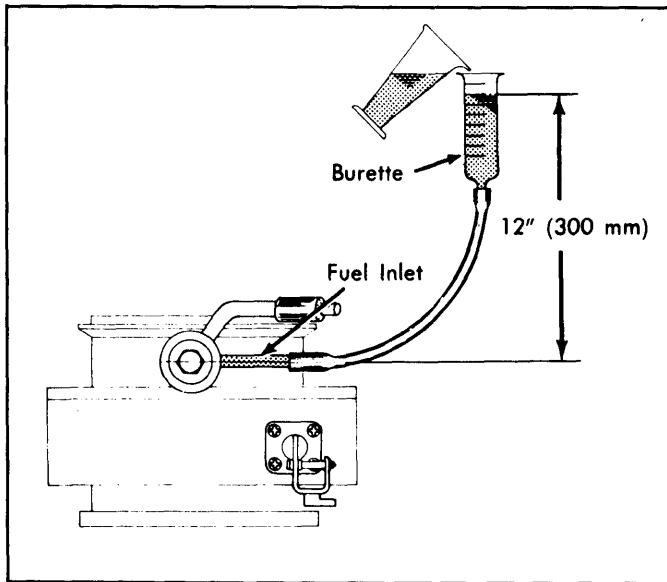

Fig. 4: Accelerator Pump Discharge Test
1) Remove carburetor and position over drip pan. Fill a burette or other cubic centimeter measuring device with 10-22 cc of fuel. Attach and hold burette to carburetor. See Fig. 4.